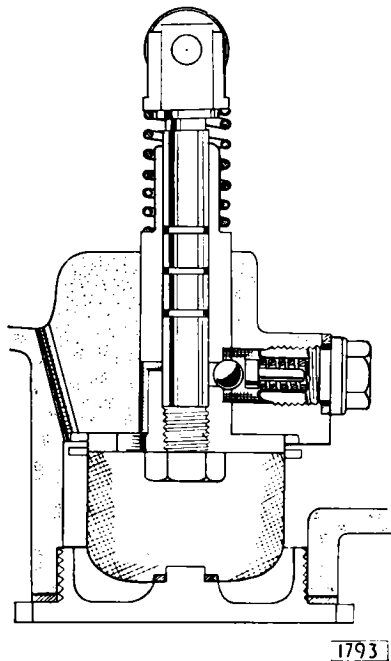

Fig. 35. The oil pump.
The pump (Fig. 35) is of the plunger type and delivers oil via a non-return valve to the accumulator. Possible sources of trouble are (1) failure of the non-return valve due to foreign matter on the seat or to a broken valve spring and (2) breakage of the spring holding the pump plunger in contact with the cam.